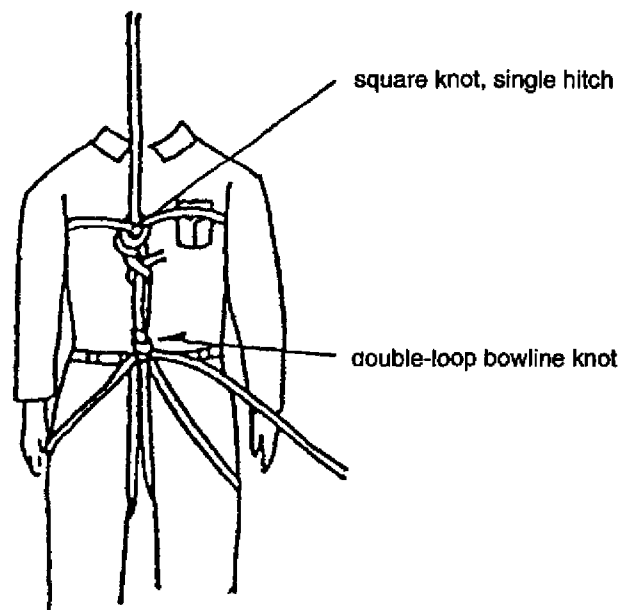

Fig. 7-32
(4) Entry
- a. The entry person forms a lifeline with a double-loop bowline body sling, ties a loop knot at the top end of this lifeline, clips a carabiner to the loop, puts on only the face mask of the breathing apparatus, and passes through the opening. (Fig. 7-32)